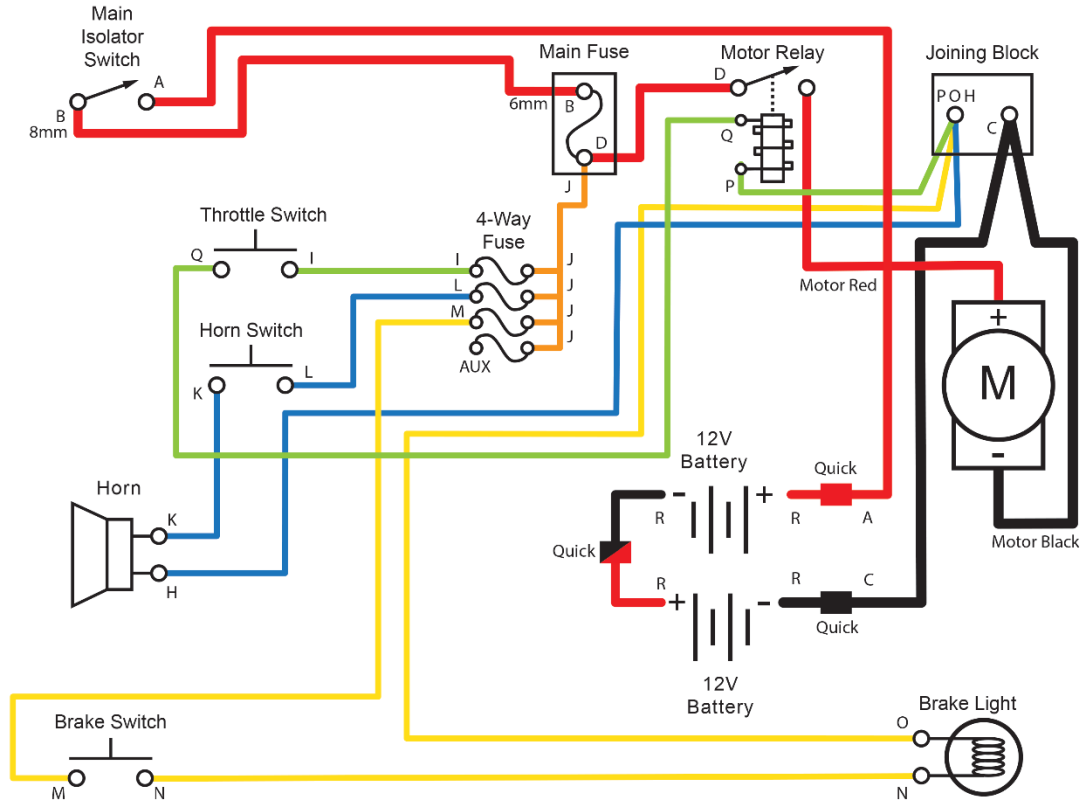

Figure 6.4.5
- Figure 6.4.5 is the wiring diagram as seen in industry standards. It makes a handy reference to see the paths of the wires. Figure 4.6.4 and following images show the wiring